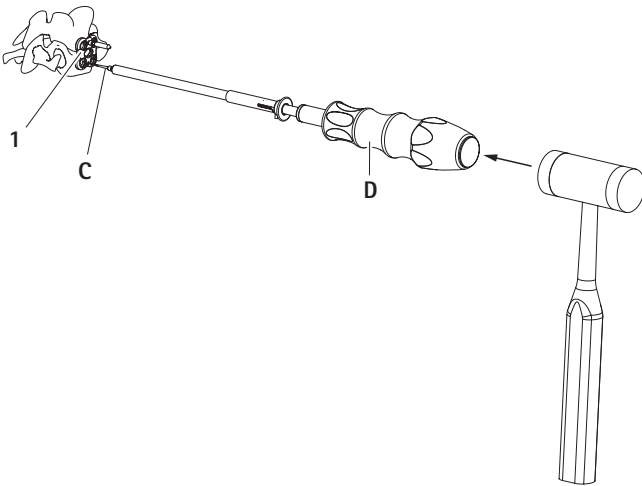

Fig. 6
- ▶ Insert the fixation pin **C** through the fixation pin hole in the Quintex® plate **1** into the vertebral body by applying a gentle hammer blow on the instrument for fixation pins **D**, see Fig. 6.